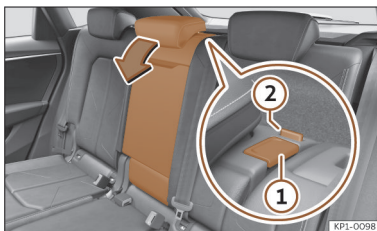

Fig. 194 Rear seat backrest: opening the trapdoor for long objects.
- Press the unlocking button >>> **Fig. 194 ①** and fold the trapdoor forwards >>> **△**. The trapdoor is not engaged when the red marking of button **②** is visible.